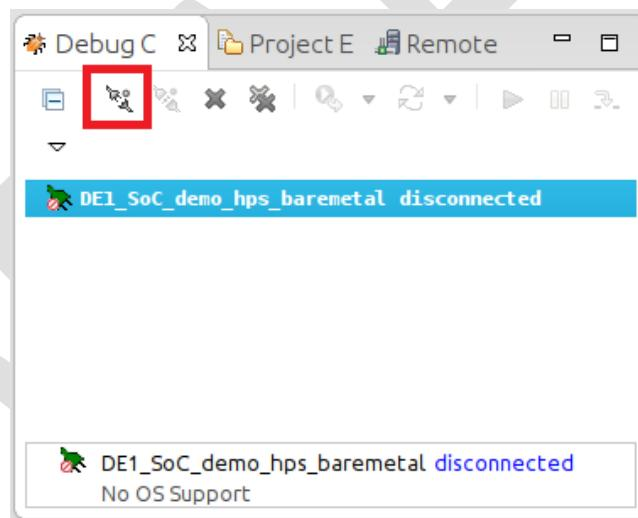

Figure 8-38. Debug Control View
21. In the "Debug Control" view, click on the "DE1_SoC_demo_hps_baremetal" entry, then click on the "Connect to Target" button, as shown on Figure 8-38. Our debug script will load and execute the preloader, then it will load and wait at our application's "main()" function.